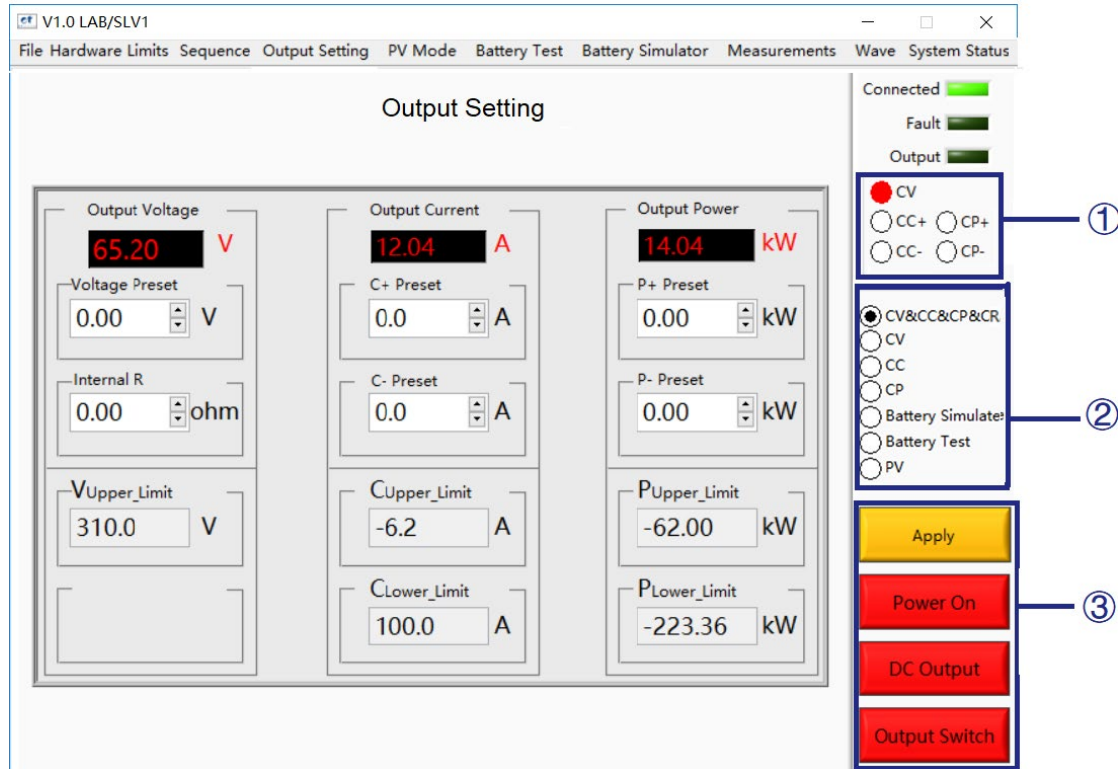

Figure 5-2 Operation Mode and input/output control
①	Connect	A few seconds after the power supply is initialized, the TFT-Touch panel displayer starts to work, the green light is always on when the software and the equipment are connected normally. If the connection fails, please check whether the AC source is normally powered, the communication cable is connected normally, or the IP address of computer is 192.168.1.2.
②	Fault	The red light indicates the equipment automatically stops working when a fault occurs during operation; when the equipment is in normal, the light is dark green.
③	DC Output	When the equipment is operating normally and outputs DC, the green light is always on; when the equipment has no DC output, the light is dark green.
On the right side of the output setting and the sequence, the user can select the operating mode of the power supply according to the test requirements (Figure 5-2②), and the software will automatically display the current operating status (Figure 5-2①).
In the output setting panel and sequence panel, there are some important controls to control the input / output of the power supply in the lower right part (Figure 5-2③). Click "Apply" → "Power On" → "DC Output" → "Output Switch", the power supply starts to work normally; click "Output Switch" → "DC Output" → "Power On", the power supply stops working.